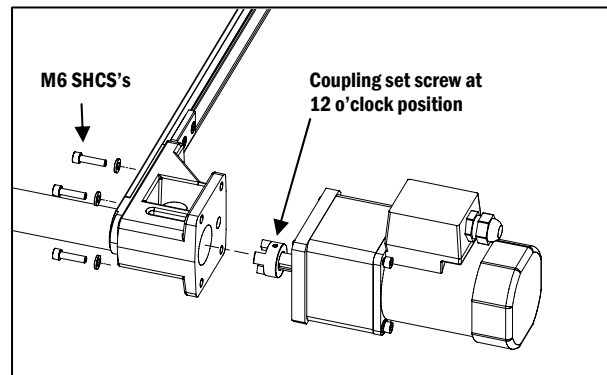

Figure 5
a. Ensure the set screw on the gearmotor coupling half will be in the 12 o'clock position when engaged with the conveyor coupling half. Mount the gearmotor/subplate/coupling assy to the casting by tightening the four M6 Socket Head Cap Screws (Figure 5). Motor can be rotated in 90° increments for electrical wiring access.